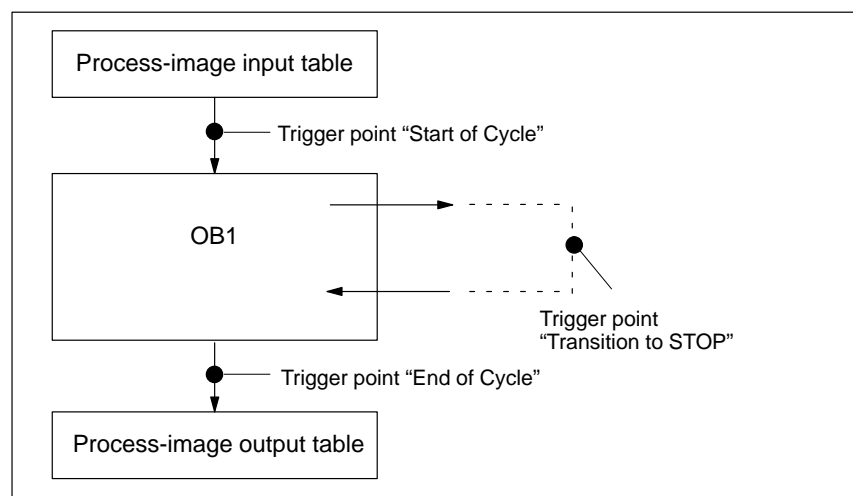

Figure 16-3 Trigger Points
- Select one of the following trigger points: “Start of Cycle”, “End of Cycle”, or “Transition to STOP” (see Figure 16-3)